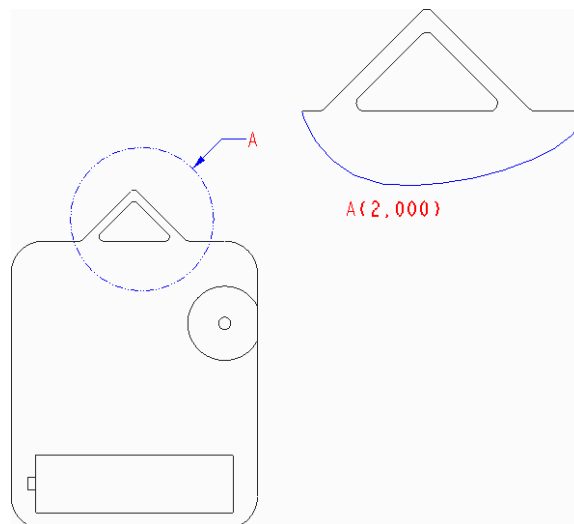

Figure 6: A detail view.
3. Select locations to sketch a spline (closed or open) to include the area that you want to include in your zoom-in detailed view. **MMB** to complete the spline. Last, click to position the detailed view on the drawing board (Figure 6).